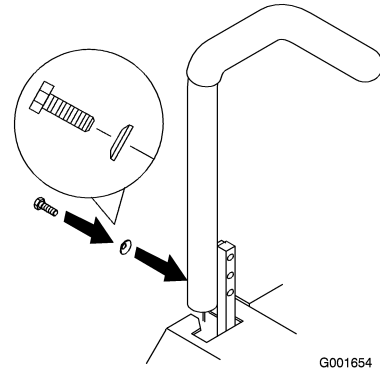

Figure 12
1. Rotate the handles to the upright position (Figure 12).
2. Loosely install the levers on the outside, using 4 bolts and curved washers (Figure 12).